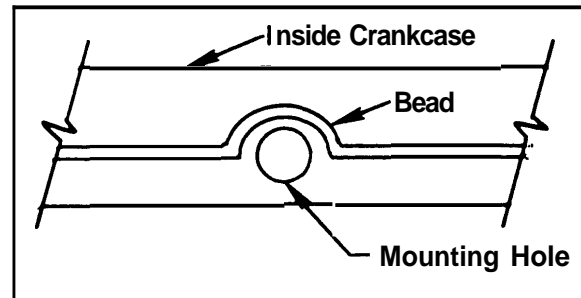

Figure 1. Bead Location
- d. Bead should be applied toward the inside of all mounting holes, as shown in Figure 1.